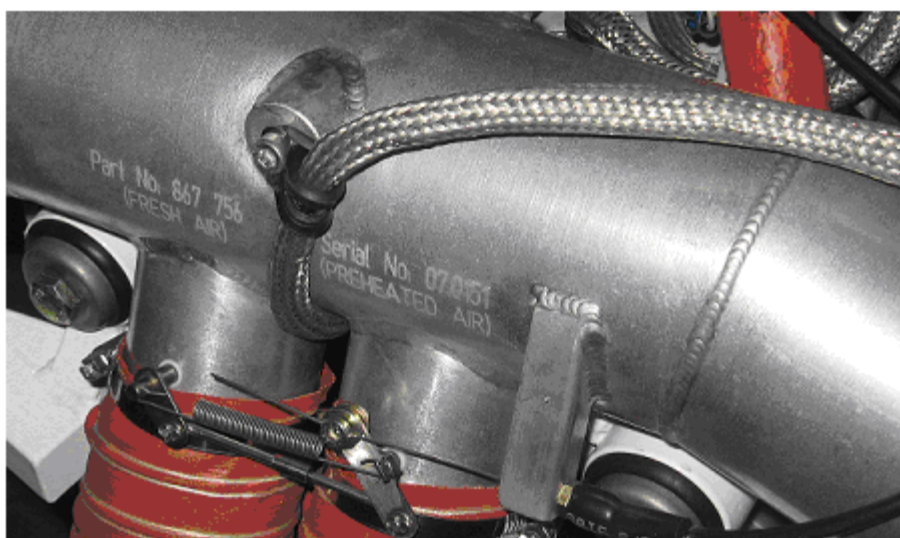

Fig. 3
- a. When the handle is pushed (Fig. 4, a) the carb heat (Fig. 3) is in OFF position.